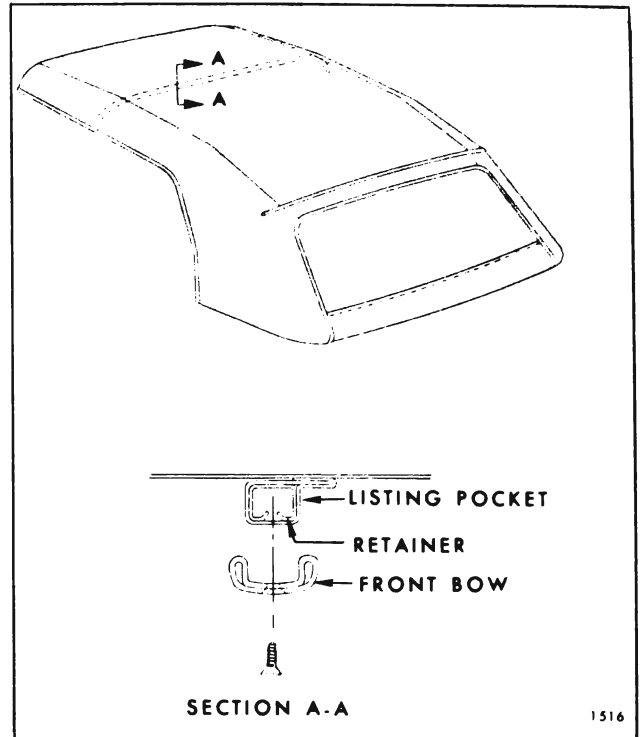

Fig. 13-25 — Listing Pocket Retainer
32. Install front bow to listing pocket retainer attaching screws (Fig. 13-25).